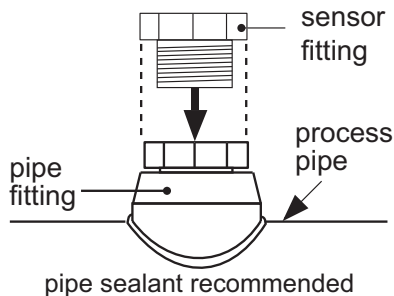

Fig. 1
- Thread sensor fitting into pipe fitting. (Fig. 1)